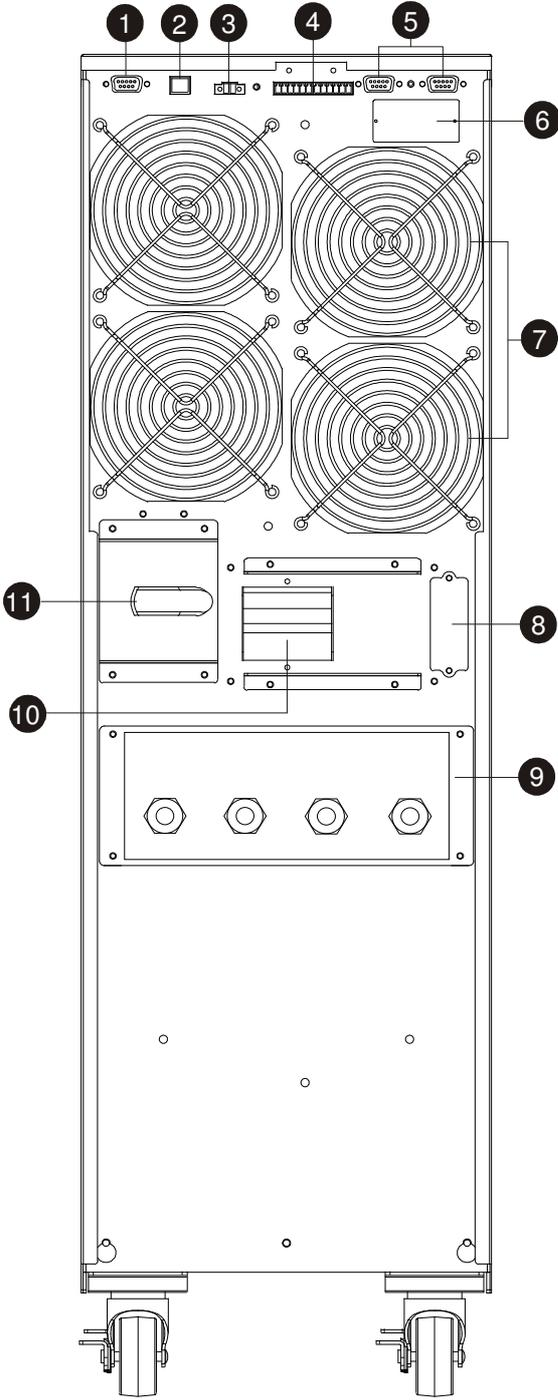
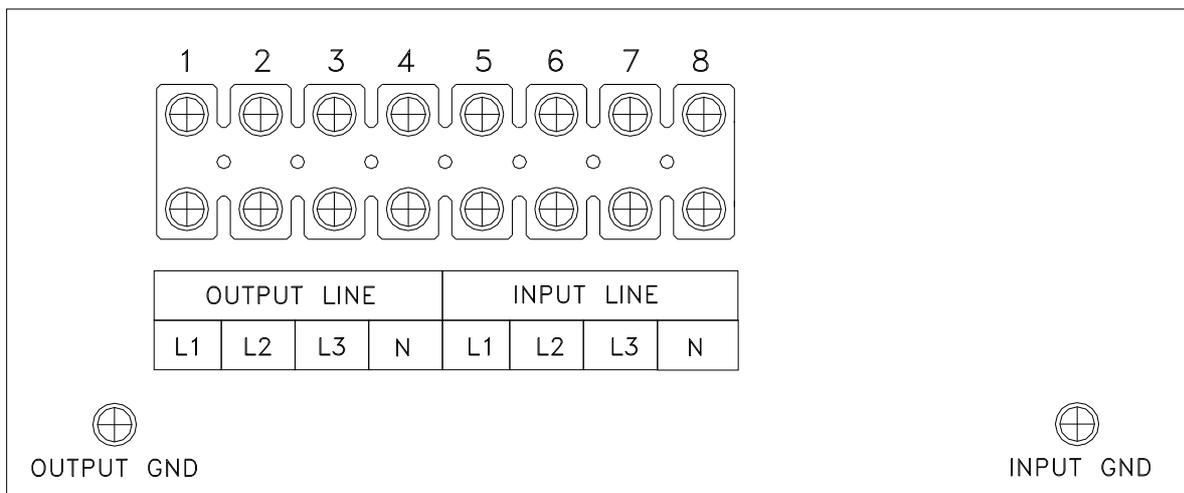

Figure 4 - Rear side
Figure 5 - Input/Output Terminals
9. **Metallic panel for access to the Input/Output terminals:** upon removal, it is possible to access the Input/Output terminals (see figure 5).
1. The Input circuit breaker on the rear panel is "OFF" (see figure 4).
1. Remove the **metallic panel** that covers the **Input/Output terminals**, see figure 4. The terminals are shown in figure 5. All the cables have to reach the terminals from the rear side using the proper holes in the metallic panel.
2. Connect the **INPUT** line paying attention to the right polarity, in accordance with figure 5, as explained below:
3. Connect the **OUTPUT** line paying attention to the right polarity, in accordance with figure 5, as explained below:
- ▶ Remove the metallic panel that covers the External Battery Box connector (#8, figure 4).
- ▶ Connect the Battery cable (supplied with the Battery Box) to the External Battery Box connector (#8, figure 4) of the UPS.
1. Check if the Input circuit breaker the rear side is in “OFF” position (see figure 4).